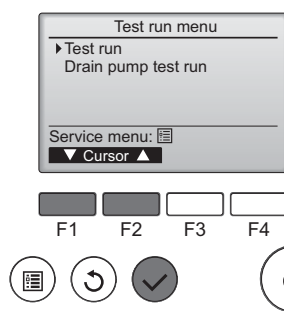

Fig. 6-4
- ④ Select "Test run" with the [F1] or [F2] button, and press the [SELECT] button. (Fig. 6-4)